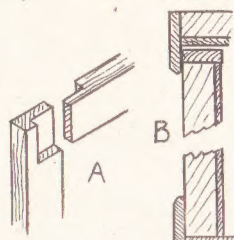

Fig. 2—Detail of joints
(2)—2ft. 6ins. by 11ins.; (2)—1ft. 3ins. by 11ins.; (2)—2ft. 6ins. by 1ft. 5ins.
ends of the joints and cover the board lining. A plinth of  $\frac{1}{2}$  in. by  $1\frac{1}{2}$  in. wood is also glued and nailed along the bottom, both these being shown at (B) in Fig. 2. The upper edges of the plinth should be bevelled off, it looks better so, improving the appearance quite a lot.
A lid for the chest can be made of framed up wood, as for the rest. Make it the same dimensions, rather on the full size, and cover on the inside with the plywood board. To the edges of this glue and nail a  $\frac{1}{2}$  in. by  $1\frac{1}{2}$  in. rim all round, as seen in detail (B) Fig. 2. Bevel the bottom outside edges of this to match the plinth below.